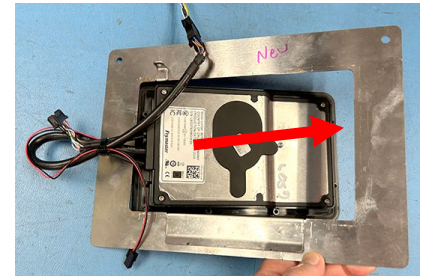

Figure 10
12. Lift up on the controller bezel and carefully remove the controller from the bezel noting the position of the harnesses and discard the bezel (see Figure 10).
13. Insert the controller wires through the front of the new control bezel. Ensure they are oriented as shown in figure 10.